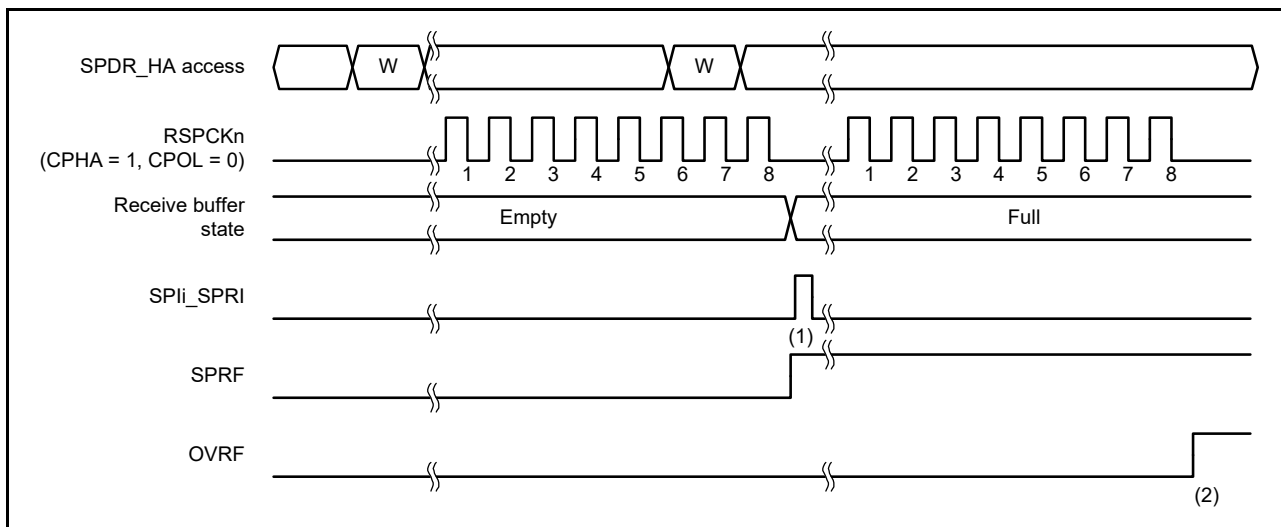
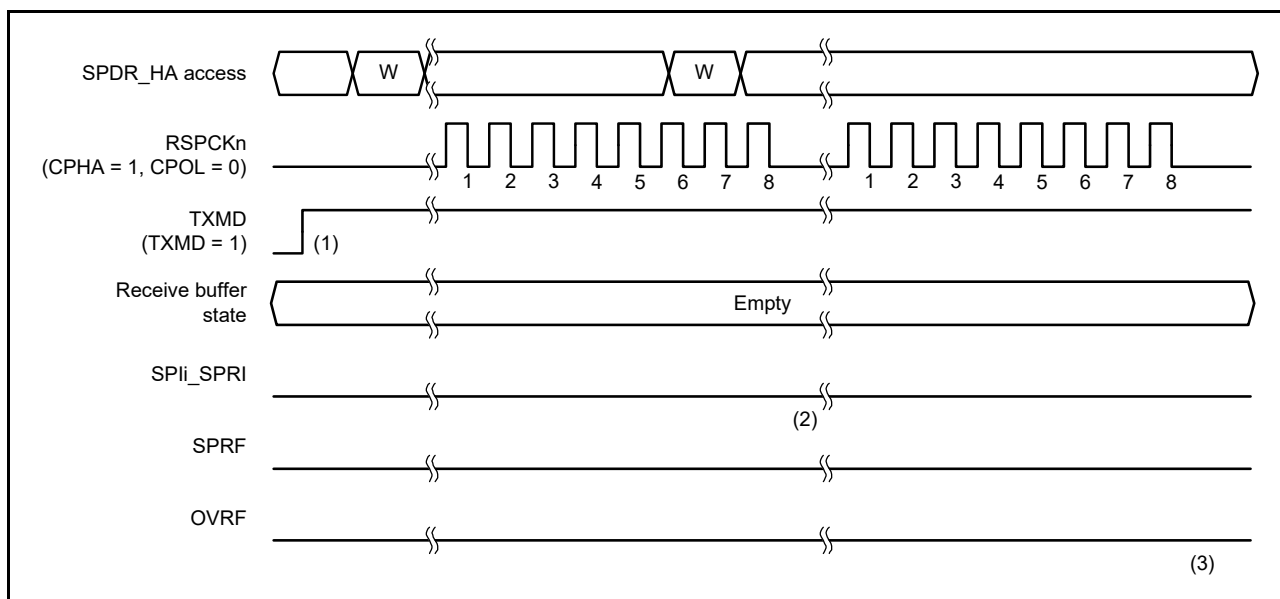

Figure 31.24 Operation example when SPCR.TXMD = 0
Figure 31.25 Operation example when SPCR.TXMD = 1
Full-duplex synchronous serial communications or transmit operations can only be selected in the Communications Operating Mode Select bit (SPCR.TXMD). The SPDR/SPDR_HA access shown in Figure 31.24 and Figure 31.25 indicate the condition of access to the register, where W denotes a write cycle.
Figure 31.24 shows an example of operation where the Communications Operating Mode Select bit (SPCR.TXMD) is set to 0. In this example, the SPI performs an 8-bit serial transfer in which the SPDCR.SPFC[1:0] bits are 00b, the SPCMDm.CPHA bit is 1, and the SPCMDm.CPOL bit is 0. The numbers given for RSPCKn in the waveform represent the number of RSPCK cycles, such as the number of transferred bits.
The operation of the flags at timings (1) and (2) in Figure 31.24 is as follows:
Figure 31.25 shows an example of operation where the Communications Operating Mode Select bit (SPCR.TXMD) is set to 1. In this example, the SPI performs an 8-bit serial transfer in which the SPDCR.SPFC[1:0] bits are 00b, the SPCMDm.CPHA bit is 1, and the SPCMDm.CPOL bit is 0. The numbers given for RSPCKn in the waveform represent the number of RSPCK cycles, such as the number of transferred bits.
The operation of the flags at timings (1) to (3) in Figure 31.25 is as follows: